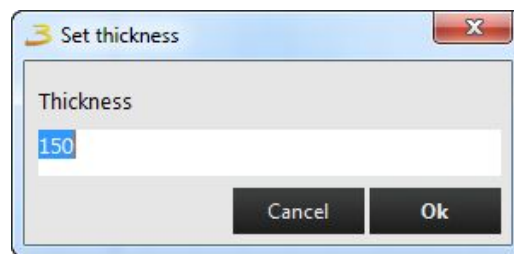

Figure 5.4: To set wall thickness.
-  Dragging the thickness modification button (orange arrows) changes the wall thickness, or selecting them and pressing the SPACE bar (or ENTER), see figure 5.4.